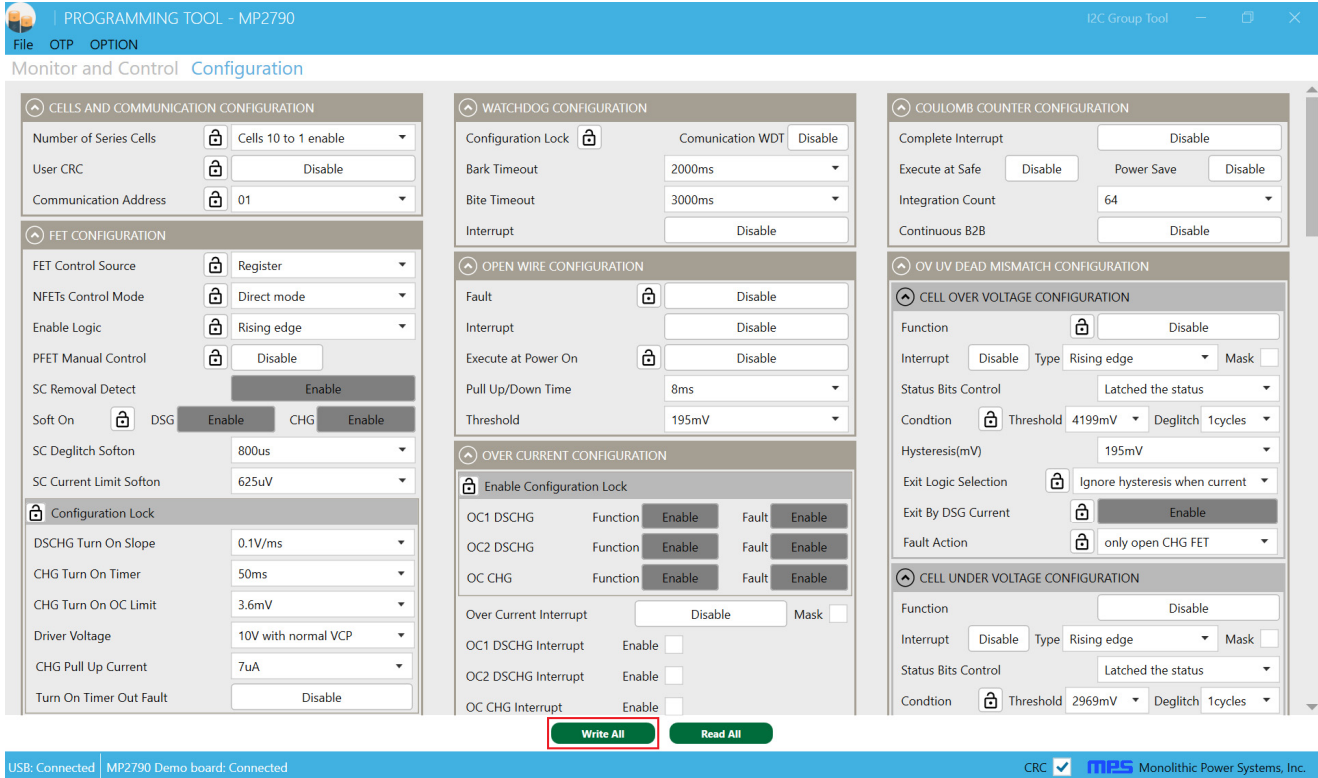

Figure 6: Configuration View
2. Click on the Configuration tab to view the device configurations (see Figure 6). The software should automatically read all the configurations. Items with a lock symbol can be configured as read-only.